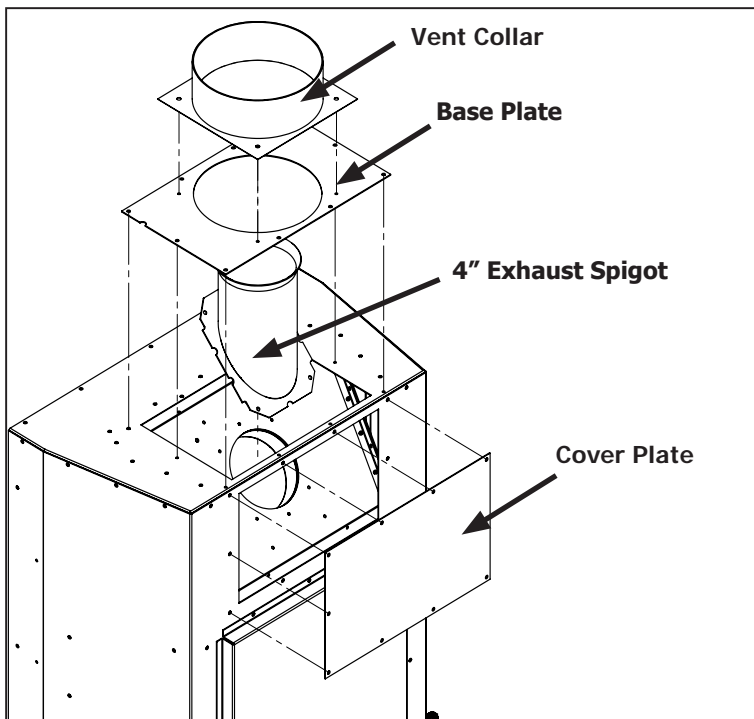

Figure 38: Removal of Co-Axial Venting
Step 1: Using a T20 screwdriver remove the vent collar, base plate, cover plate and 4" exhaust spigot (28 screws total) as shown in Figure 38. The vent collar, base plate, and 4" exhaust spigot will no longer be used.